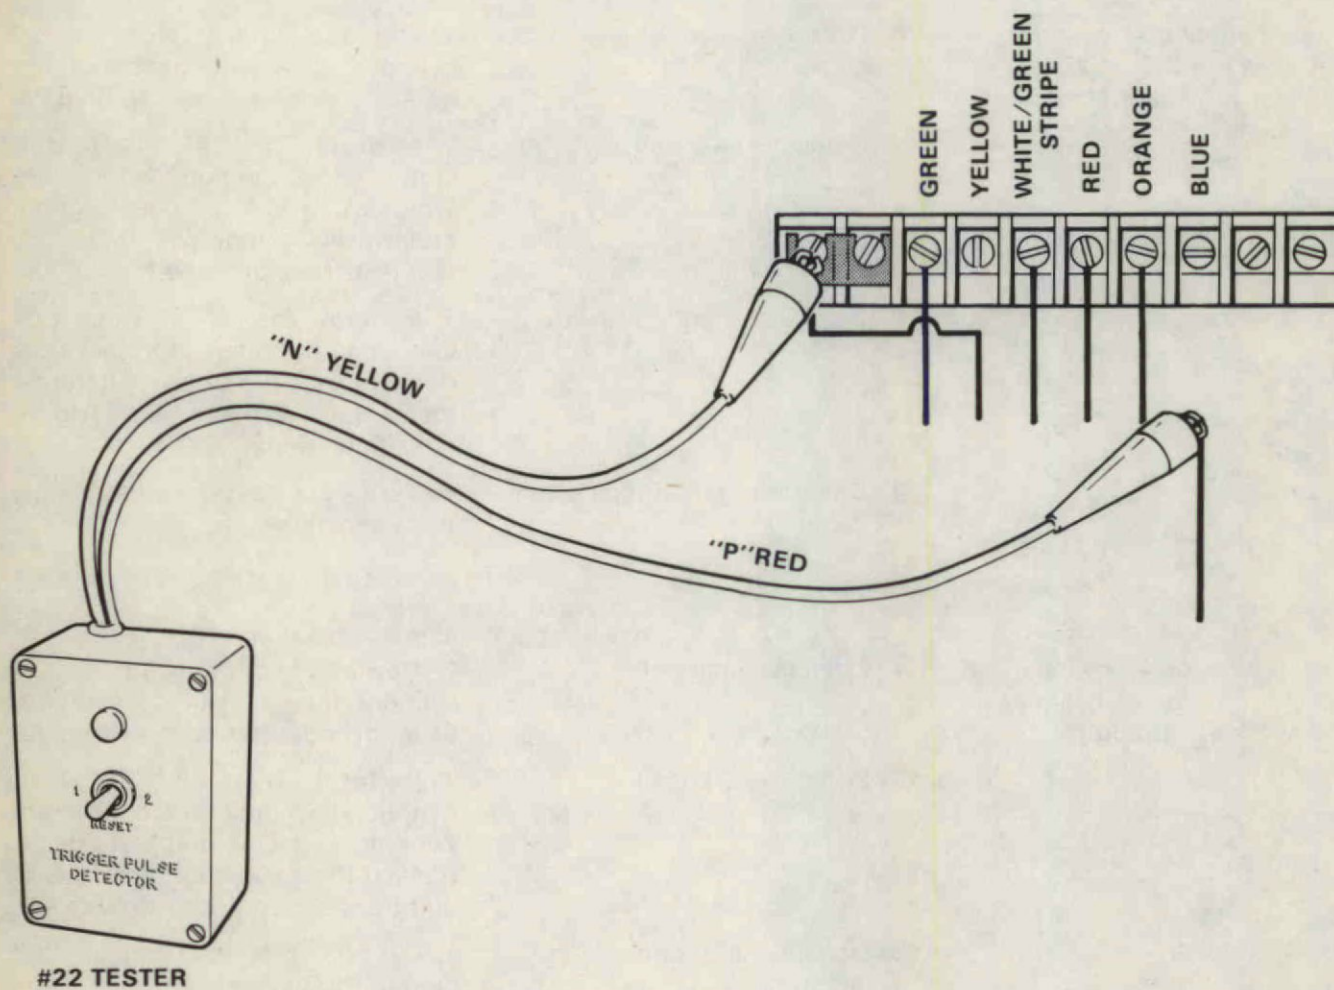

Figure 5
2. Disconnect yellow wire from stator at terminal block and connect it to the ground terminal on the terminal block, Figure 5.
3. Connect "P" lead (red) of #22 Tester to blue wire, Figure 5.
4. Connect "N" lead (yellow) of #22 Tester to Ground terminal, Figure 5.